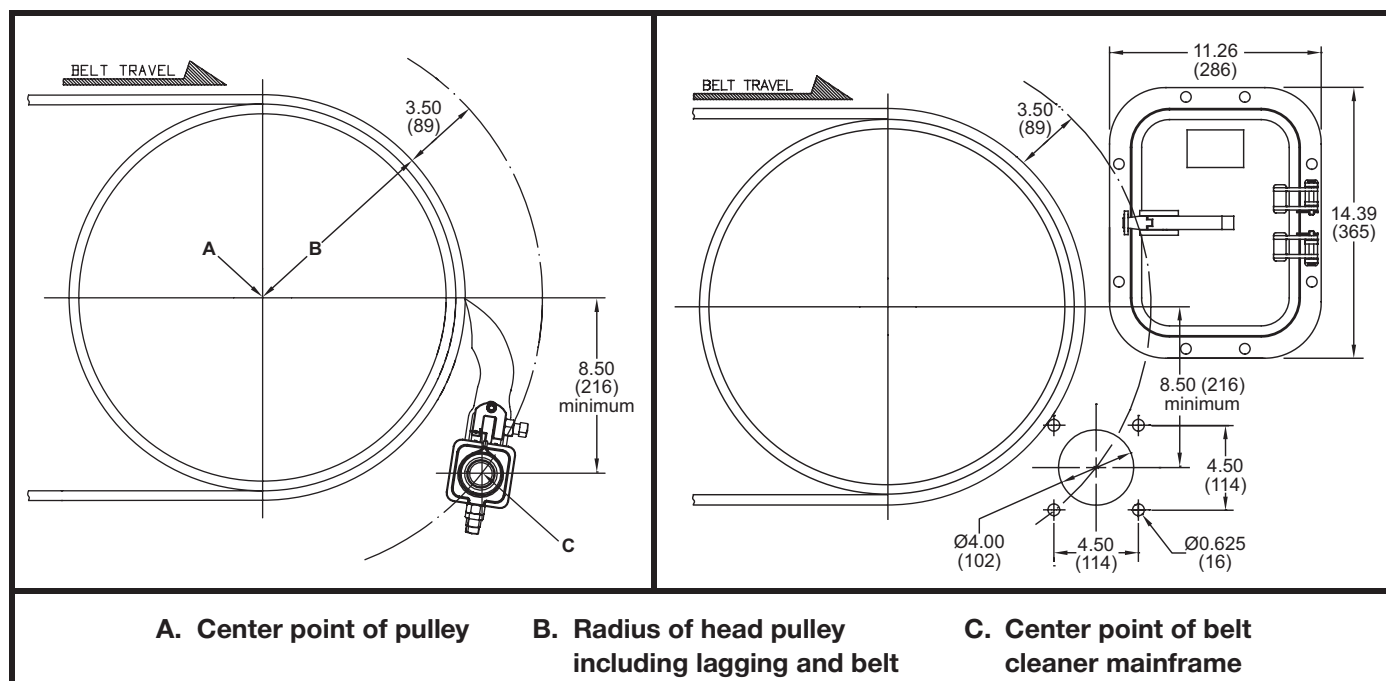

Figure 2. Belt Cleaner Mainframe Location & Chute Wall Cutouts
1. On operator side of chute, find pulley center point (A).
2. Measure radius of head pulley including lagging and belt thickness (B). To this dimension, add 3.50 in. (89 mm).
3. Starting from center point (A), measure the total distance calculated in step 2 ($B + 3.50$) and draw an arc on chute wall.
4. Measure down from pulley's horizontal centerline the distance shown in Figure 2 and draw a horizontal line parallel to it. Locate center point of belt cleaner mainframe (C) where this line intersects the arc on the chute wall.